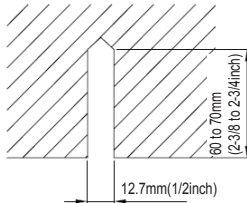

Fig. 4.3
- (2). Install the bolts to the ceiling at a place strong enough to hold the unit. Mark the bolt positions from the installation template. With a drill, drill four 12.7mm (1/2inch) diameter holes. (Fig. 4.3)